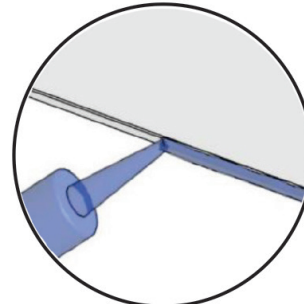

FIG 29.
- Remove shelf and put a thin bead of adhesive down both edges of shelf (**FIG 29**).